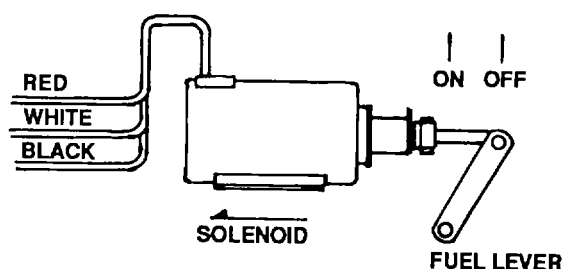

Figure 4-74. Solenoid Wiring
1. Follow start-up procedures to turn the ignition switch ON, but do not turn to START. With the safety bypass turned on, person No. 1 presses the oil pressure button, while person No. 2 presses the plunger toward the front of the engine. Solenoid should lock in the RUN position. If solenoid does not lock in place, check for voltage between Black No.2 and Red No.9 for 12 volts (figure 4-74). If voltage is present, suspect the solenoid.